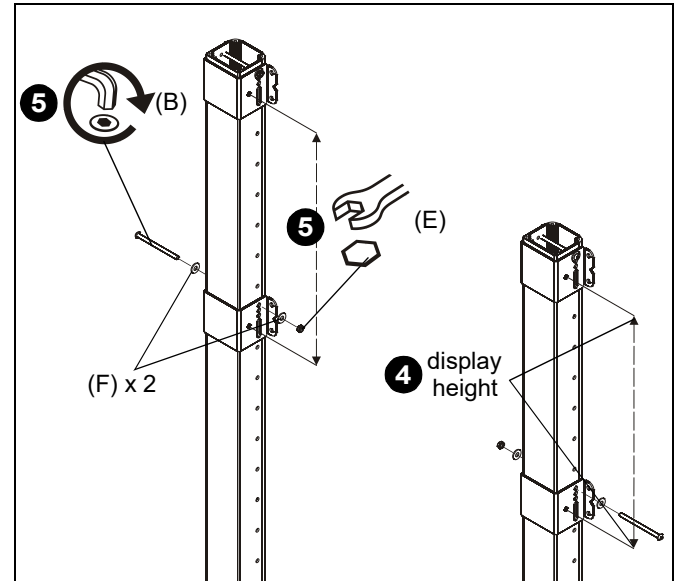

Figure 3
4. Measure one screen height down from center point on installed clamp brackets to determine mounting location of lower clamp brackets. (See Figure 3)
5. Use 5/16-18 x 4 1/2" button head cap screw (B), two 5/16" washers (F) and 5/16-18" lock nut (E) to install clamp brackets for lower displays with center diamond one screen height below center diamond of upper installed brackets. (See Figure 3)